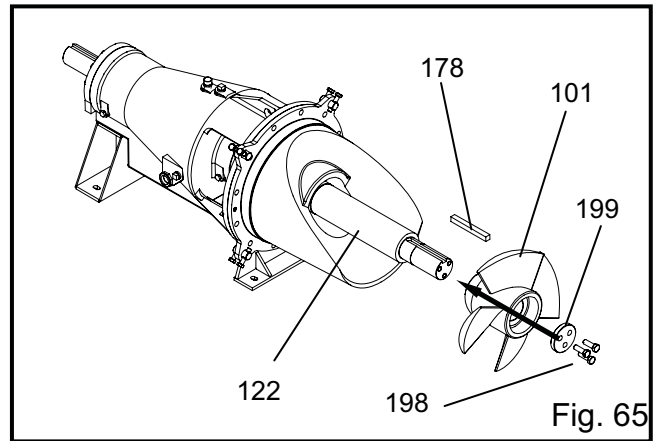

Fig. 65
17. Install the shaft key (178). Slide the impeller (101) onto the shaft (122) and if necessary use a wooden mallet to set it in place against the shaft shoulder. Install the shaft washer (199) and fasteners (198), tighten to lock the impeller (101) in place, see Fig. 65.